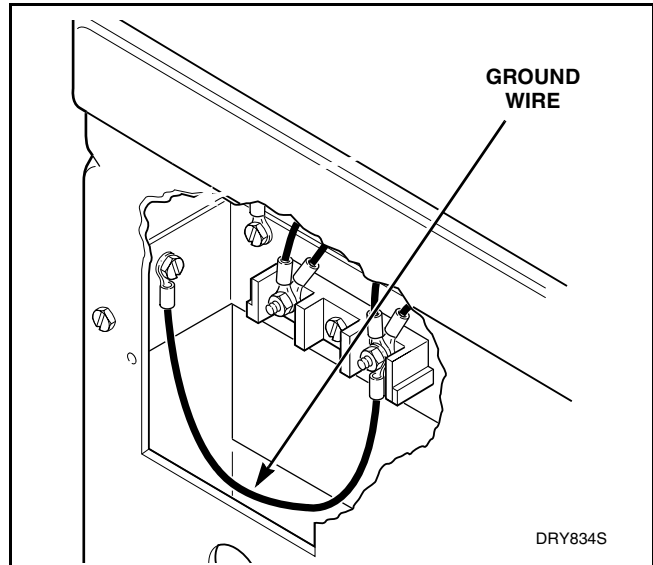

Figure 3
3. NEUTRAL AT TERMINAL BLOCK TO TERMINAL BLOCK BRACKET AND FROM TERMINAL BRACKET TO CONTROL (Electric Models Only) Refer to *Figure 3*